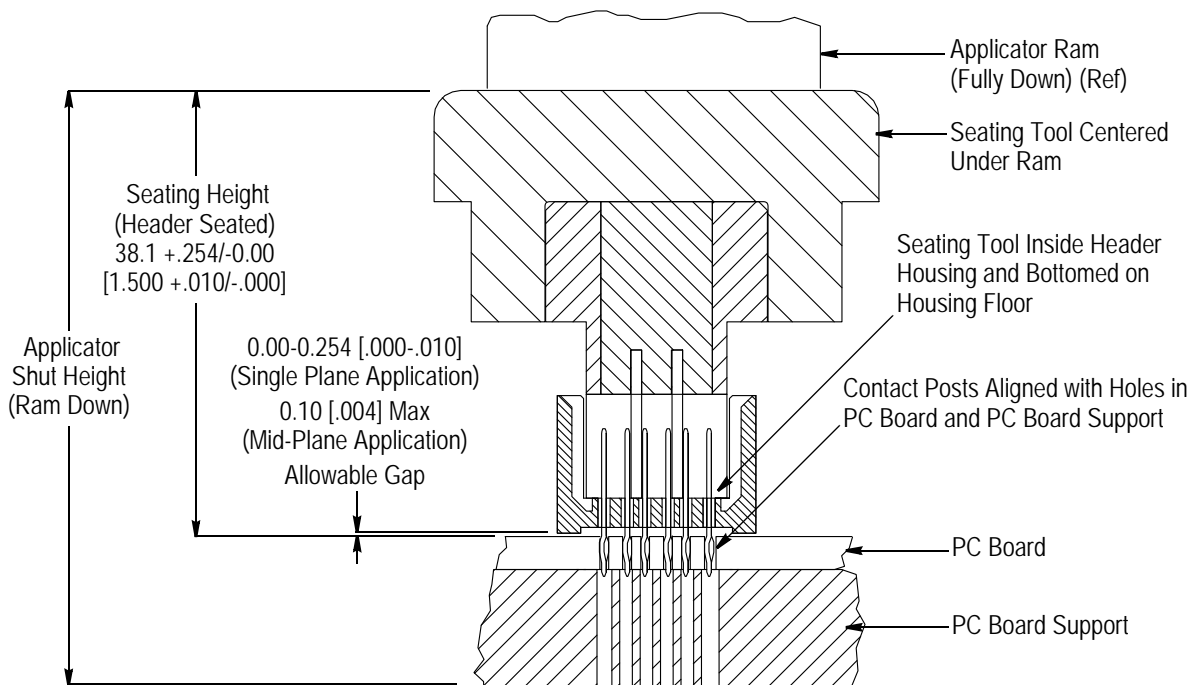

Figure 2
1. Set the seating height to the dimension shown in Figure 2 (applicator shut height will equal the seating height PLUS the combined thicknesses of the pc board and pc board support).
- Added gap for mid-plane application to Figure 2